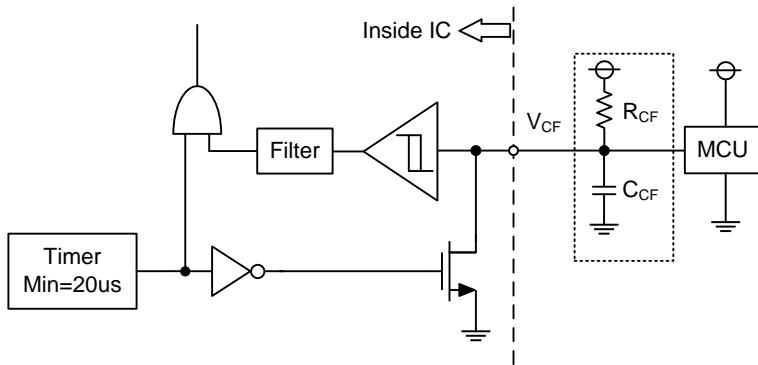

Figure 4. V_{CF} Output Circuit
- There are two COM pins in the IPM but it is recommended to only use the (15) COM pin to minimize SC detection noise.
- (9) Input drives are active-high. There is a minimum $3.5\text{k}\Omega$ pull-down resistor in the input circuit of IC. To prevent malfunction, the layout to each input should be as short as possible. When using RC coupling circuit, make sure the input signal levels meet the required turn-on and turn-off threshold voltages.
- (10) V_{CF} output is open drain type. It should be pulled up to MCU or control power supply (max= $5\pm0.5\text{V}$), limiting the current (I_{CF}) to no more than 1mA . I_{CF} is estimated roughly by the formula of control power supply voltage divided by the pull-up resistor R_3 . For example, if control supply is 5V , a $10\text{k}\Omega$ (over $5\text{k}\Omega$) pull-up resistor R_3 is recommended.
- (11) If only a pull-up resistor R_3 of $10\text{k}\Omega$ connected to V_{CF} pin, the fault output pulse width is fixed at minimum 20us . If a capacitor C_5 is connected with a pull-up resistor R_3 , the fault output pulse width can be controlled according to the resistor value and capacitor value. For the design guide, please refer to the Figure 4.
- (12) Direct drive of the IPM from the MCU is possible without having to use opto-coupler or isolation transformer.
- (13) The IPM may malfunction and erroneous operations may occur if high frequency noise is superimposed to the supply line. To avoid such problems, line ripple voltage is recommended to have $dV/dt \leq \pm 1\text{V}/\mu\text{s}$, and Vripple $\leq 2\text{Vp-p}$.
- (14) It is not recommended to use the IPM to drive the same load in parallel with another IPM or inverter types.